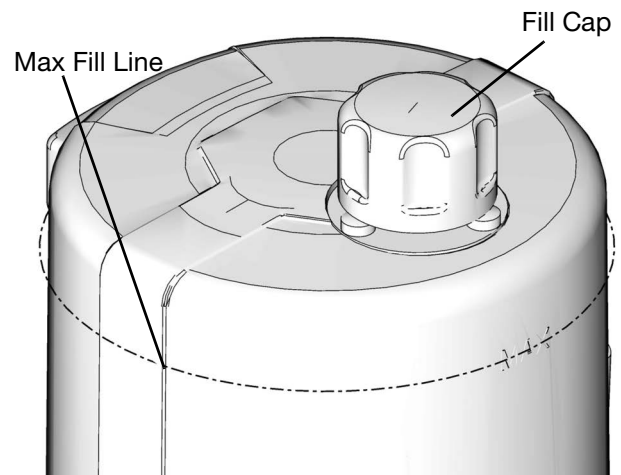

FIG. 25
- No not overfill (FIG. 25).
1. Remove the fill cap (FIG. 25).
2. Pour the oil into the reservoir to the max fill line (FIG. 25).
3. Replace the fill cap, and hand tighten, securely (FIG. 25).